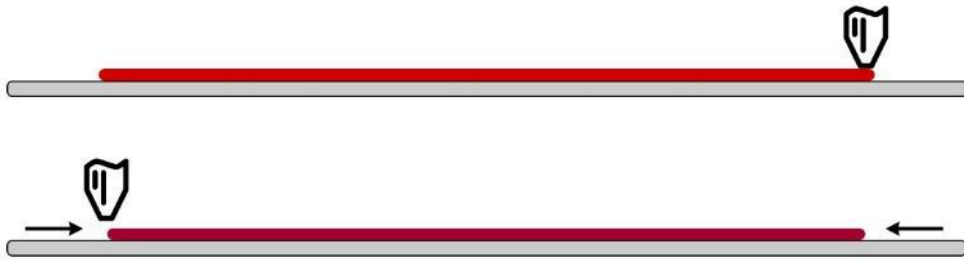

Figure 3: First layer
1. When the first layer is extruded onto the build-plate, **it starts immediately cooling down** to the build plate temperature, this will lead to the **first layer to contract slightly** (Figure 3).